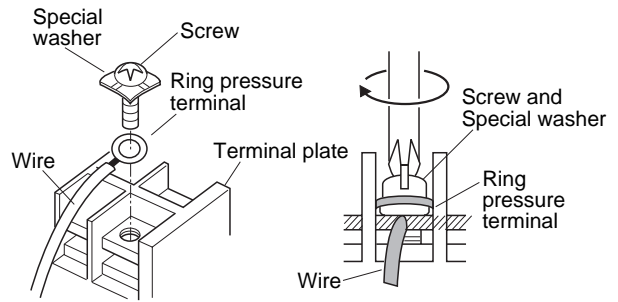

Fig. 5-2
- (4) Place the ring pressure terminal, and replace and tighten the removed terminal screw using a screwdriver. (Fig. 5-2)